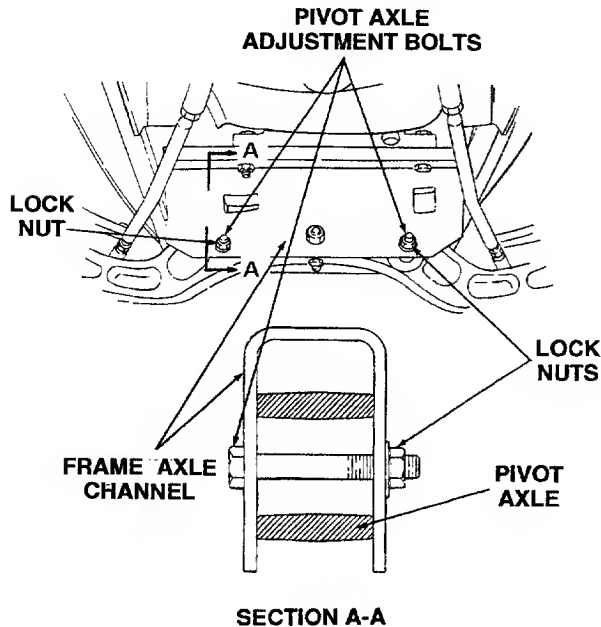

Figure 14
2. Pivot the ends of the axle up and down to check for binding. If the axle is binding, loosen the lock nuts (See Figure 14) until binding is eliminated.